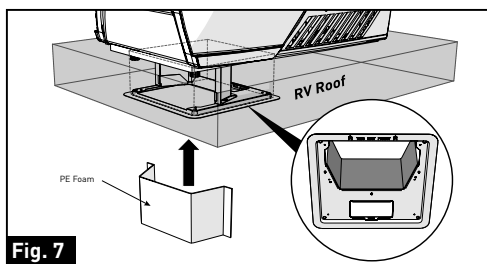

Fig. 7
- Peel to remove the release paper from the EVA foam, overlap the sticky side over all gaps and compress to seal and insulate the entire section. (Fig. 7)